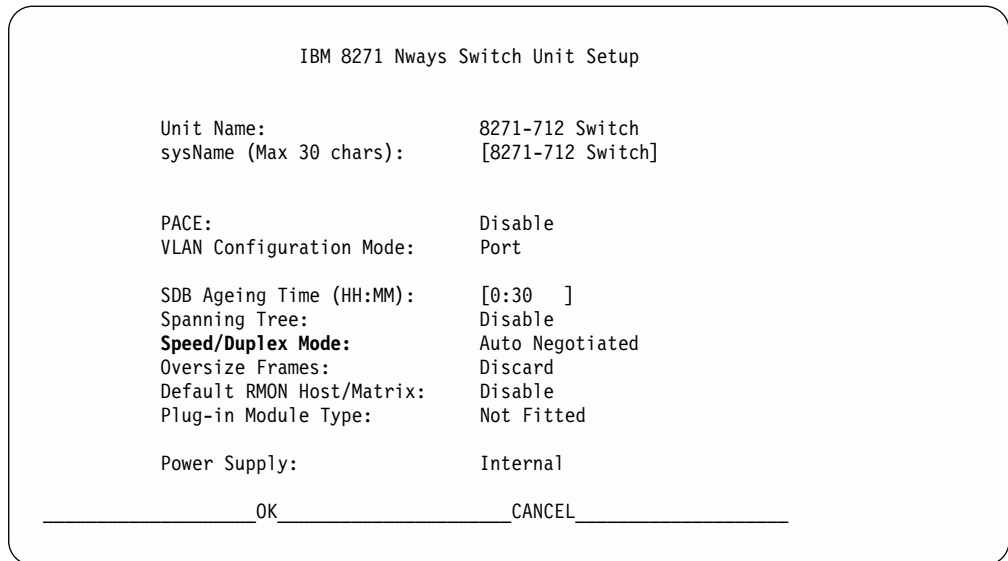

Figure 153. Nways Switch Unit Setup Menu
19. Press the space key until **UNIT** displays. With the down arrow key, move the cursor to **SETUP**. Press **ENTER**. Figure 153 on page 408 Displays.